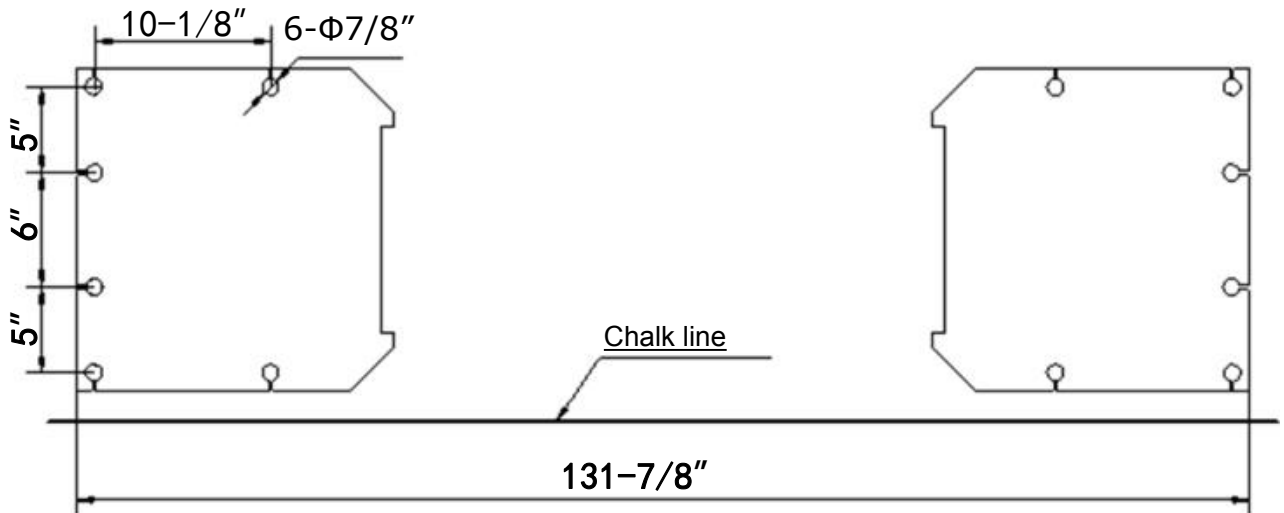

Fig. 6
B. Use a carpenter's chalk line to establish installation layout of base-plate (See Fig. 6).